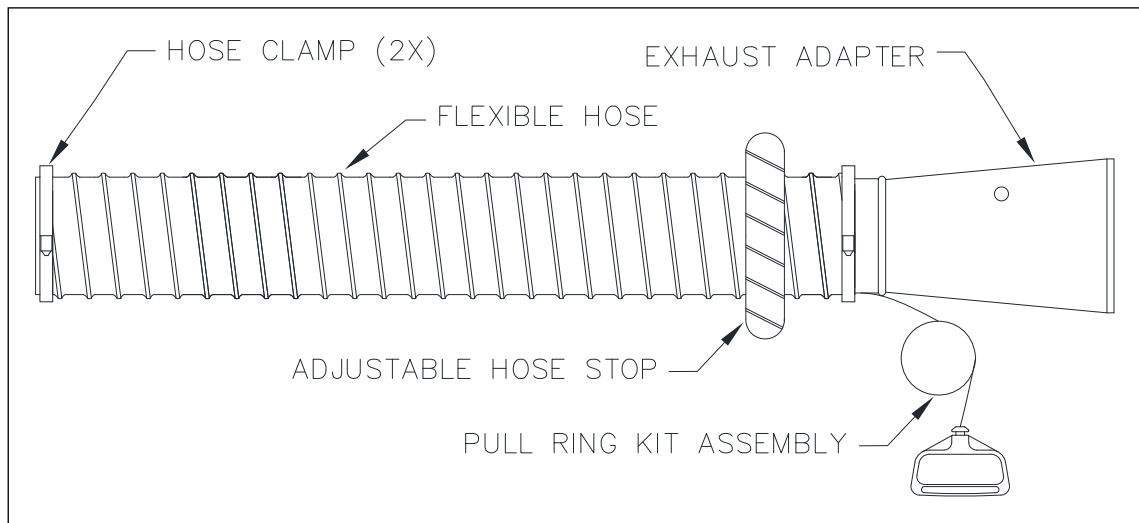

FIG3 – TYPICAL FLEXIBLE HOSE ASSEMBLY
5. See steps 6-8 for hose assembly. Typical configuration shown in FIG3.